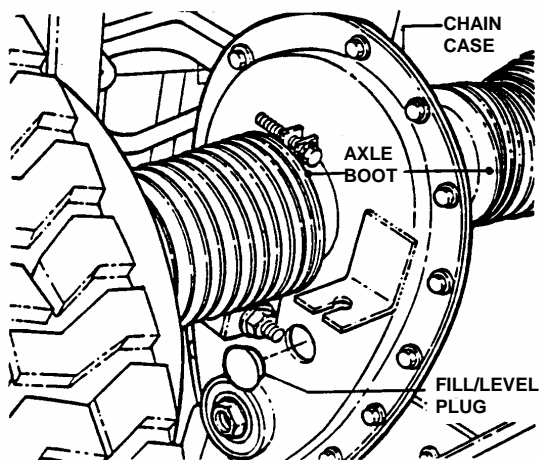

FIGURE 3.9
3. Check fill/level plug for damage. If signs of wear or cracks are visible, replace plug with new plug. See Figure 3.9.
4. To check lubricant in chain case, remove fill/level plug and look for lubricant on the internal components of the chain case. If no lubricant is visible, add "SNAPPER Transmission" grease as needed. See Figure 3.9.